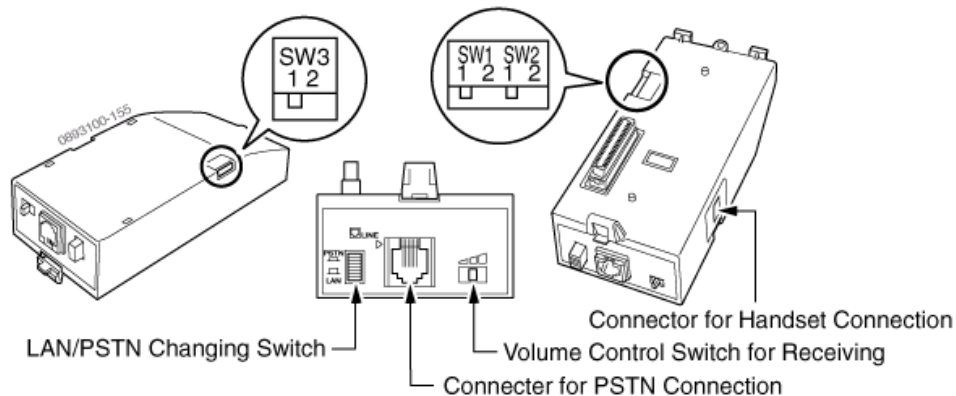

Figure 4-46: PSA-R SETTINGS
**PSA-R Adapter (Figure 4-46 - Figure 4-47)**